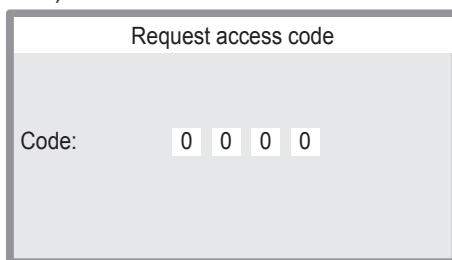

Fig. 8.5
- Press key 13 (Fig. 8.1) again and enter the password (6683). Use key 15 or 16 to enter the corresponding value and key 10 or 11 to move to the next value. Press key 13 again to confirm the password (Fig. 8.5).